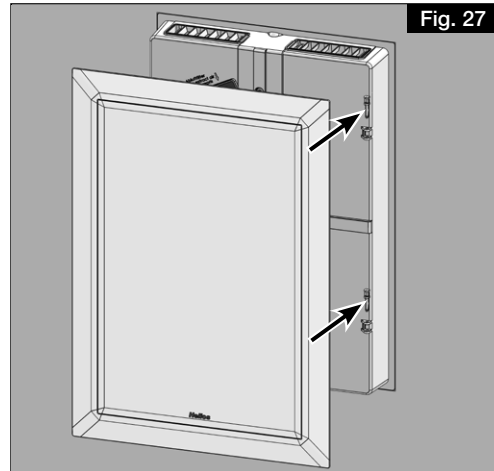
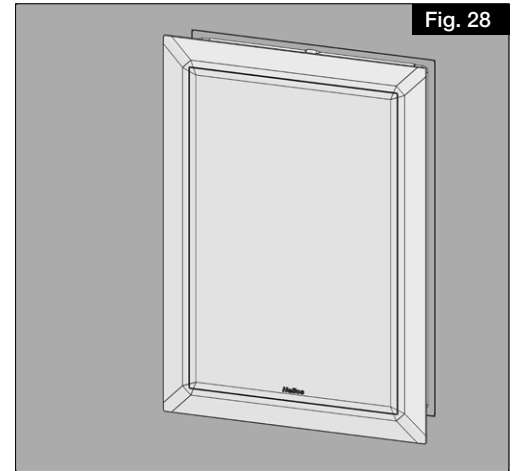

Fig. 27
Fig. 28
9. Attach the panel to the panel frame using the fixing clamps (see Fig. 27, Fig. 28). The fixing clamps are included in the poly bag.